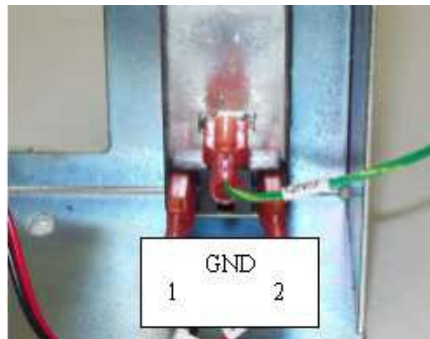

Figure 2 Power Input Switch Wiring
4. Attach the red, black and green connectors from the power switch interface harness and ground cable to the back of the power switch as shown in Figure 2 above. The leads are labeled as indicated by the text below each connection.